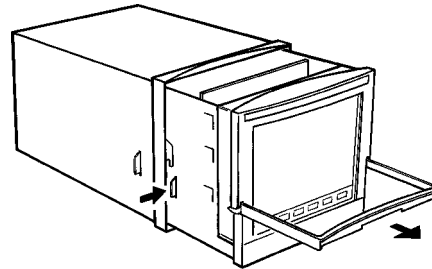

Figure 7.6.1b Graphics unit chassis removal
3. For graphics recorders, lift the handle and pull the display unit forwards until it latches (figure 7.6.1b). Press the latch in and pull the chassis gently out of the case until the flexi cable connector at the rear of the writing system can be accessed.